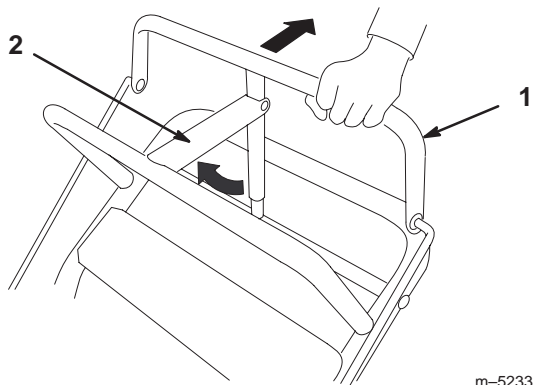

Figure 14
1. Pull the upper control bar (Fig. 14) rearward and hold it in this position.
2. Lift the parking brake lock (Fig. 14) up and gradually release the upper control bar. The brake lock should stay in the set (locked) position.
1. Pull rearward on the upper control bar (Fig. 14). Lower the parking brake lock to the released position.